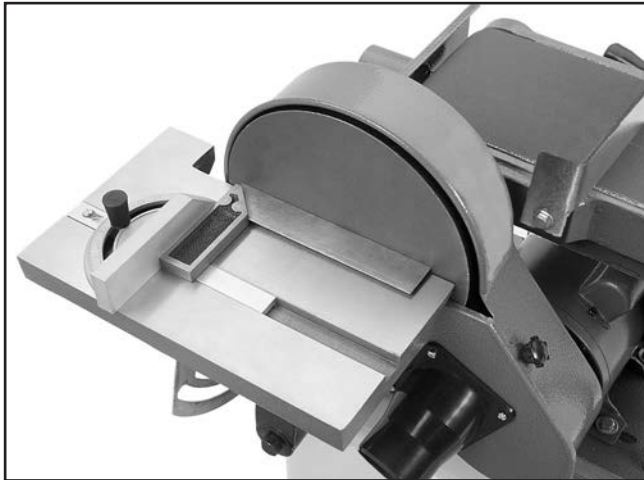

Figure 46. Calibrating miter gauge with square.
46. Place one edge of a machinist's square against the face of the miter gauge and the other against the sanding disc (see **Figure 46**) or sanding belt.